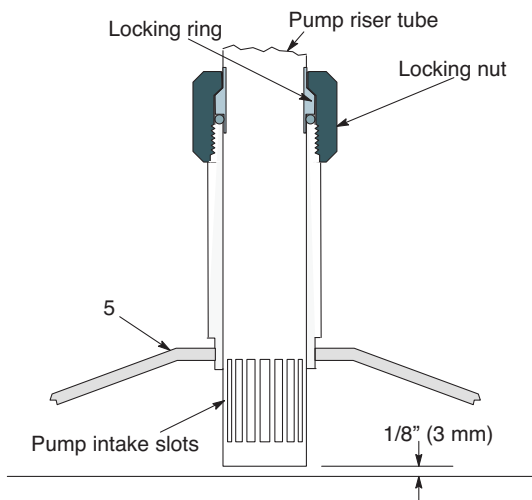

FIG. 6
3. Remove the fluid outlet adapter included with the pump, and screw the holster (6) into the pump outlet using thread sealant.
5. Remove inductor plate locking nut, locking ring, and o-ring. (FIG. 6)
7. Adjust the inductor plate (5) on the pump riser tube so the slots are showing just below the inside of the plate. Tighten the locking nut securely. (FIG. 6)
11. Center the inductor plate (5) in the pail opening. Press down on the pump and rock it back and forth to seat the inductor plate to eliminate air pockets. Continue action until material appears at the vent opening.
14. Connect hose (2a) to holster (6) or to pump fluid outlet adapter if you chose not to use the holster. Connect the nipple (2d) to the pump air inlet or air regulator inlet (7b), whichever is applicable.